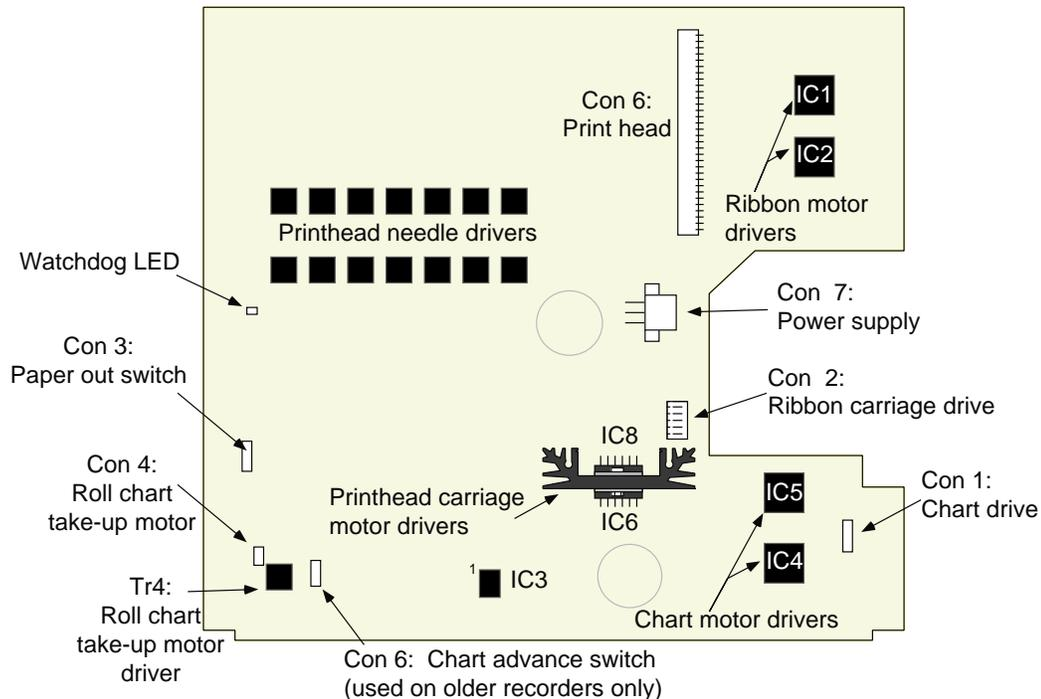

Figure 3.1.2 Writing system control board
- 5 Open the recorder door and see if the 'Watchdog' LED on the writing system control board is on (Green). This LED is located towards the left side of the circuit board as shown in figure 3.1.2.
Drive problem	<p>With the recorder door open, observe the green 'Watchdog' LED on the writing system board (figure 3.1.2) (The LED is visible over the top of the chart/platen.) If the LED is off, check the loom from the PSU to the writing system for integrity, and replace if necessary. If this fails to solve the problem, replace the writing system board. If the LED is flashing, the on-board microprocessor system has failed: replace the writing system board.</p> <p>If the LED is on, switch the recorder off and carry out the following checks:</p> <ol style="list-style-type: none"> <li>1 Check that the toothed belt from the motor to the chart pinion is undamaged; replace if necessary (See section 4)</li> <li>2 Check that the motor loom is undamaged, and that it is properly connected into the writing system board (CON 1 in figure 3.1.2)</li> <li>3 If steps 1 and 2 do not reveal the fault, then, taking adequate precautions against static discharge damage, remove the writing system board, and check for any obvious signs of damage to ICs 4 and 5.</li> <li>4 If damage is apparent, check the resistances between pins 1 and 2, and between pins 3 and 4 of the flying-lead part of CON 1. If either reading lies outside the range 5 to 15 Ohms, replace the motor and the writing system board.</li> <li>5 If damage is not apparent check the resistances between pins 1 and 2, and between pins 3 and 4 of the flying-lead part of CON 1. If either reading lies outside the range 5 to 15 Ohms, replace the motor. If the readings are acceptable, replace the writing system board.</li> </ol>
Switch the printer OFF line (using the Operator CHART menu), and use an oscilloscope to check the opto output at IC 3 pin 13 on the writing system board, whilst running the printhead backwards and forwards over the edge detect finger. (IC 3 is located near the bottom of the writing system board, slightly left of centre - see figure 3.1.2).